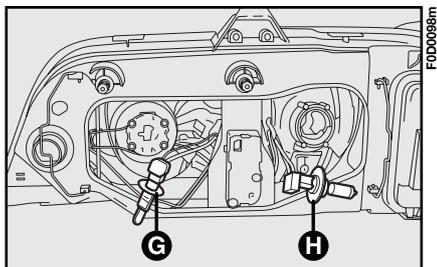

fig. 14
5) release the two retaining clips **D** or **F**-fig. 14 and remove bulbs **G** or **H**-fig. 14.